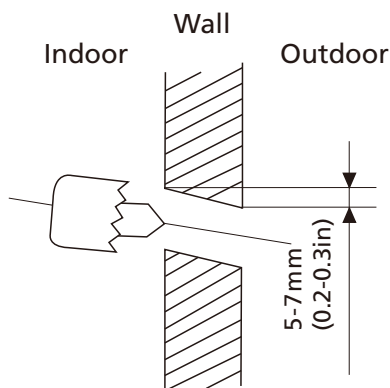

Fig. 4.2
2. Using a 65-mm (2.5in) core drill, drill a hole in the wall. Make sure that the hole is drilled at a slight downward angle, so that the outdoor end of the hole is lower than the indoor end by about 5mm to 7mm (0.2-0.275in). This will ensure proper water drainage. (See **Fig. 4.2**)